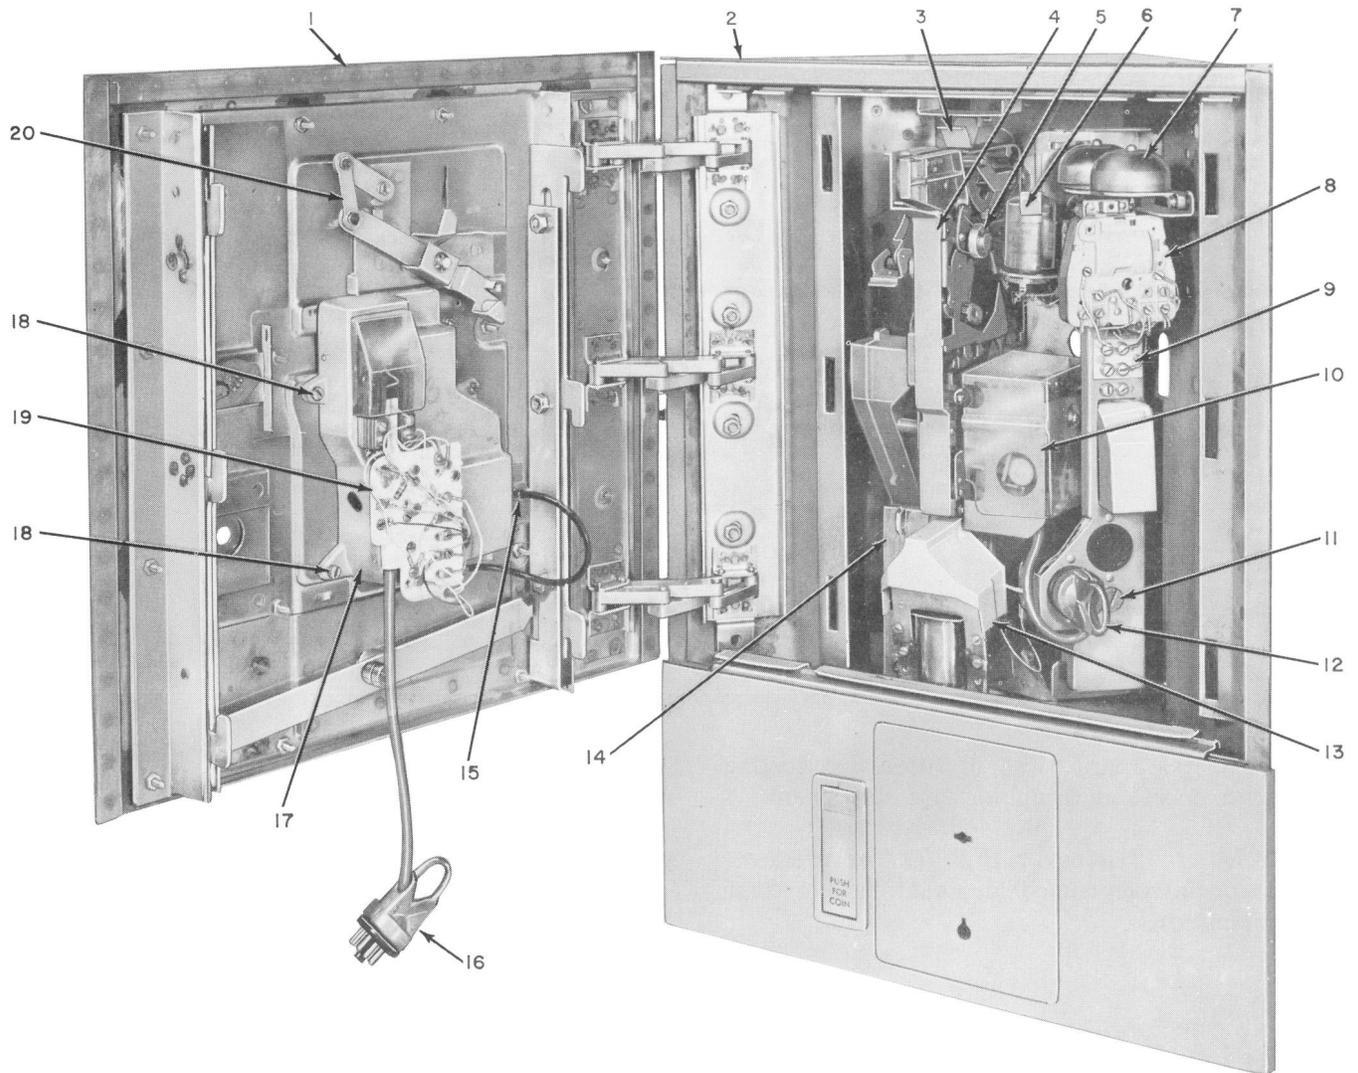

Fig. 4—Assembly of Parts
- Make key callout numbers in Fig. 4 compatible with the legend.
#### (a) Replaceable Components for 2A1 (Fig. 4)
(b) **Replaceable Components for 2A2 (Fig. 4)**